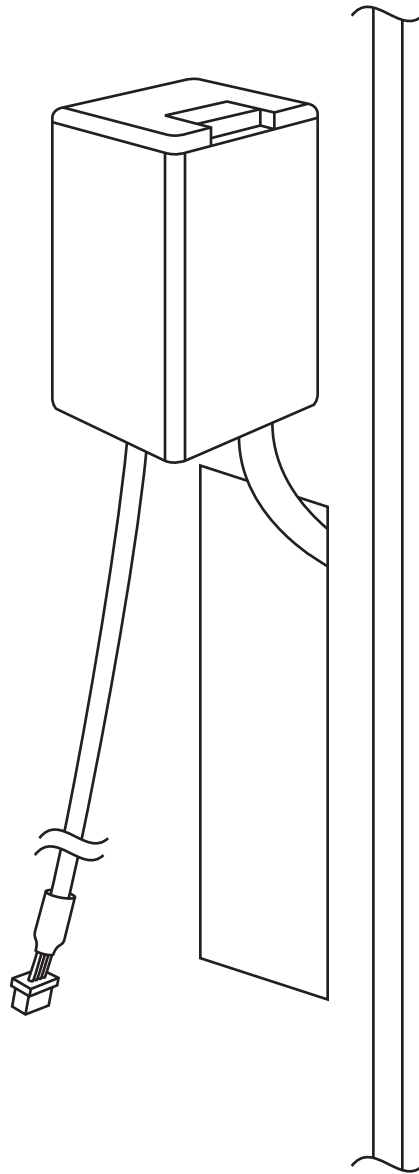

Figure 5. Push the finger-sensor assembly through the door lock opening.
- Push the finger-sensor assembly through the door lock opening as shown in Figure 5.